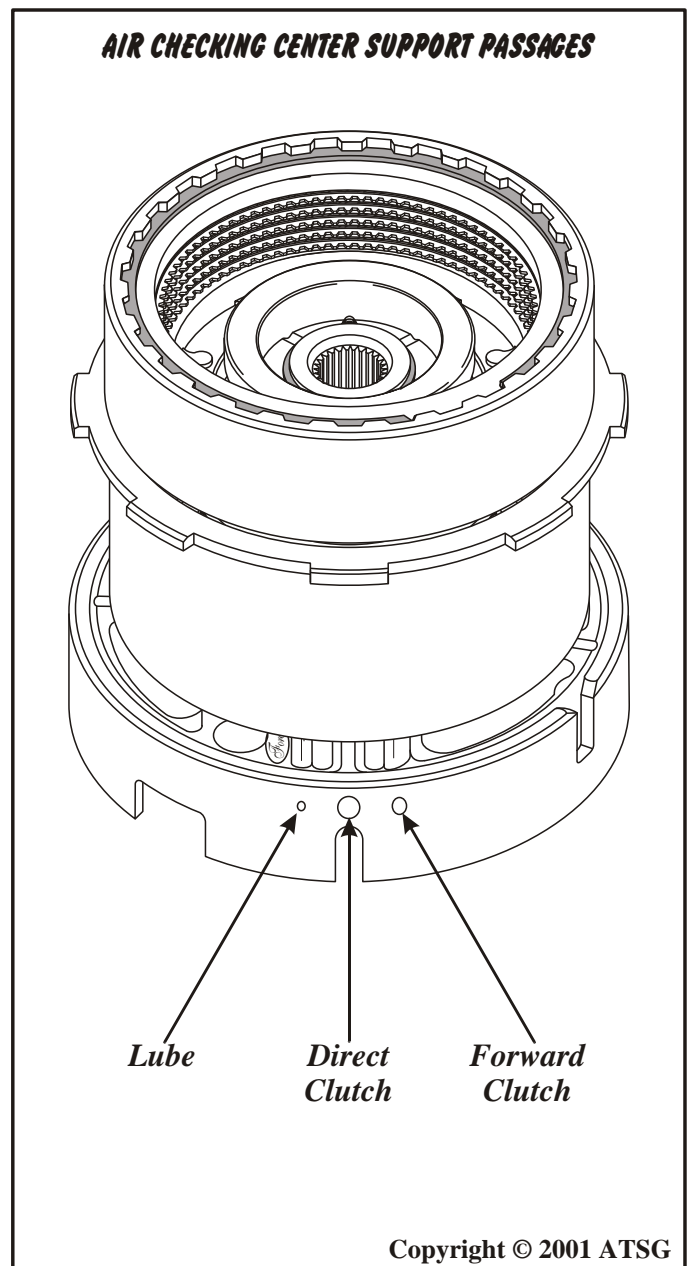

Figure 94
6. The **only positive way** to verify the integrity of the center support, is to assemble the forward and direct clutch housings, with the appropriate thrust bearings, onto the support, as shown in Figure 94.